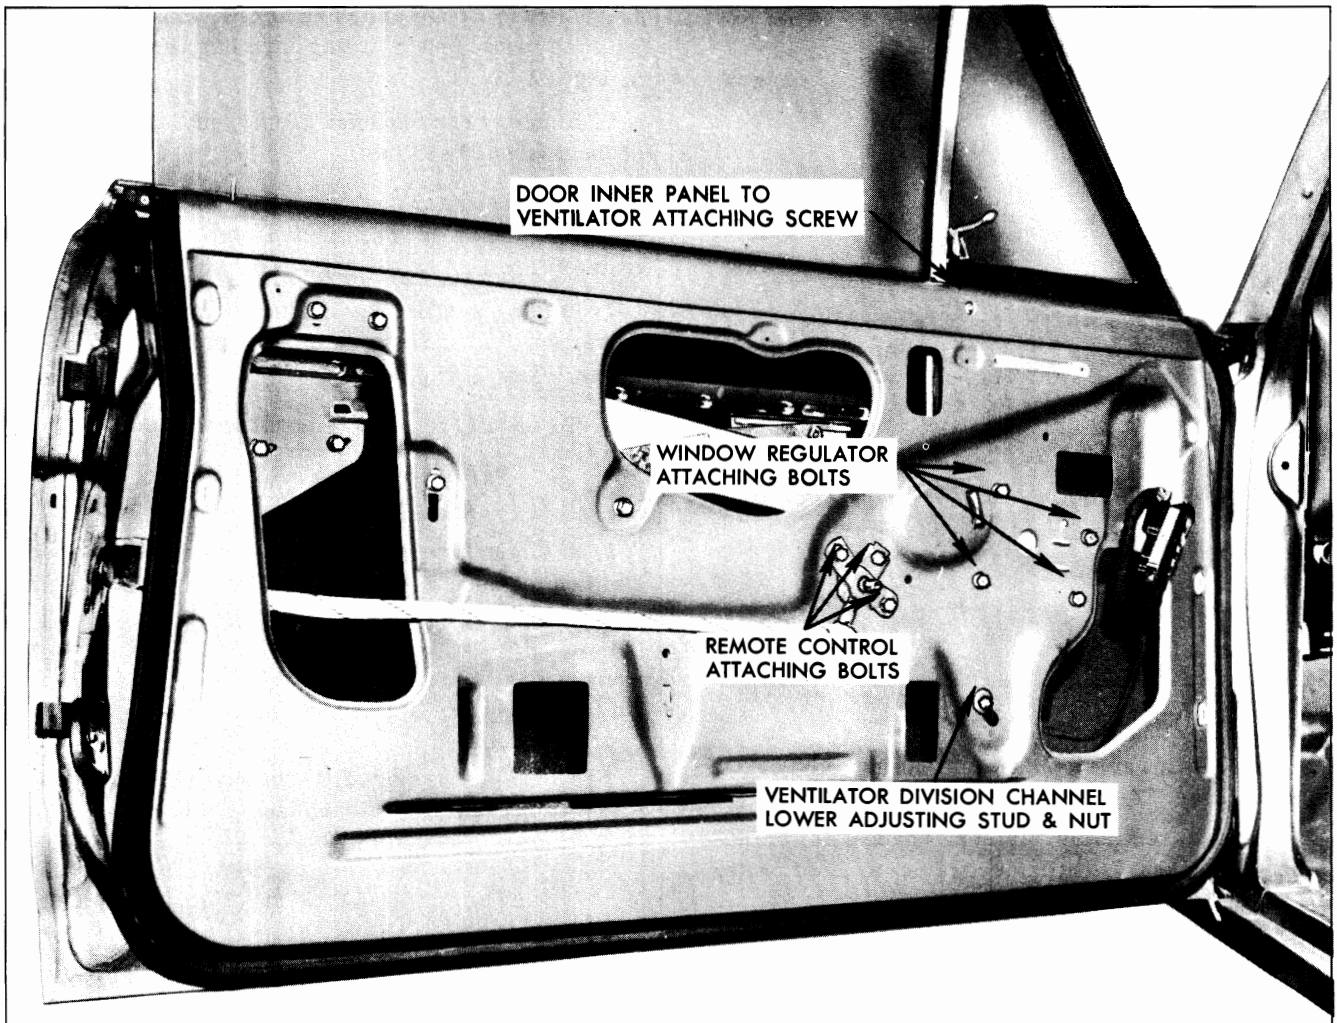

Fig. 12-22 Door Hardware
3. Remove ventilator division channel lower adjusting stud nut (Fig. 12-22).
4. Remove door inner panel to ventilator attaching screw (Fig. 12-22).
3. Prop window in a full up position and remove regulator attaching bolts (See Fig. 12-22).